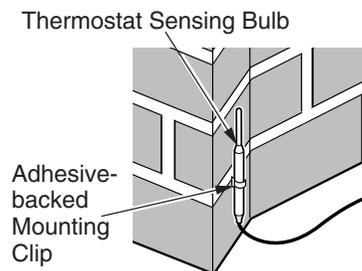

Figure 51 - Locating Thermostat Sensing Bulb on Masonry Fireplace
3. The thermostat sensing bulb may be located to the lower right front side of fireplace. Determine location of sensing bulb, but do not mount sensing bulb until step 4. If you have a masonry fireplace, see Figure 51 for location.